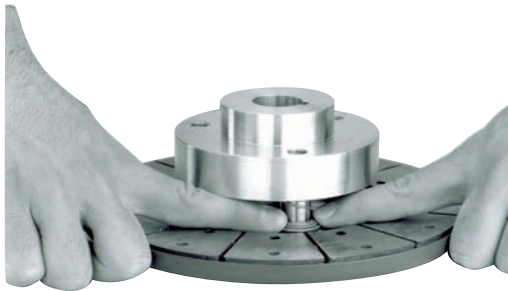

Figure 15 - Positioning the detent cups in the armature.
Step 5: Place the armature hub assembly on a flat surface with the armature working face up. Push down on each detent cup (Item 5) with your fingers, pushing the armature down until the armature will not move down any further. (See Figure 15)